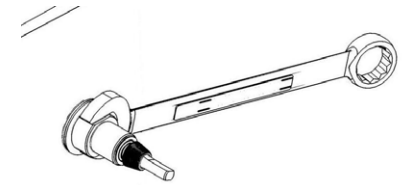

Figure 5
6. Remove the black aluminum nuts (AME part #414-1045) with a 1" open end wrench or a crescent wrench. (Figure 5)